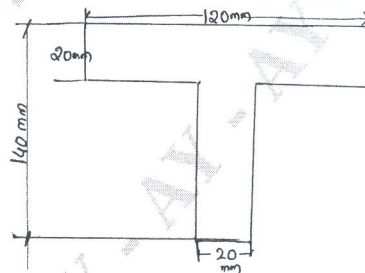

Fig.Q6(a)
- 6 a. The T-section shown in Fig.Q6(a) is used as a simply supported beam over a span of 4 meters. It carries an uniformly distributed load of 8 kN/m over its entire span. Calculate the maximum tensile and compressive stresses occurring in the section.